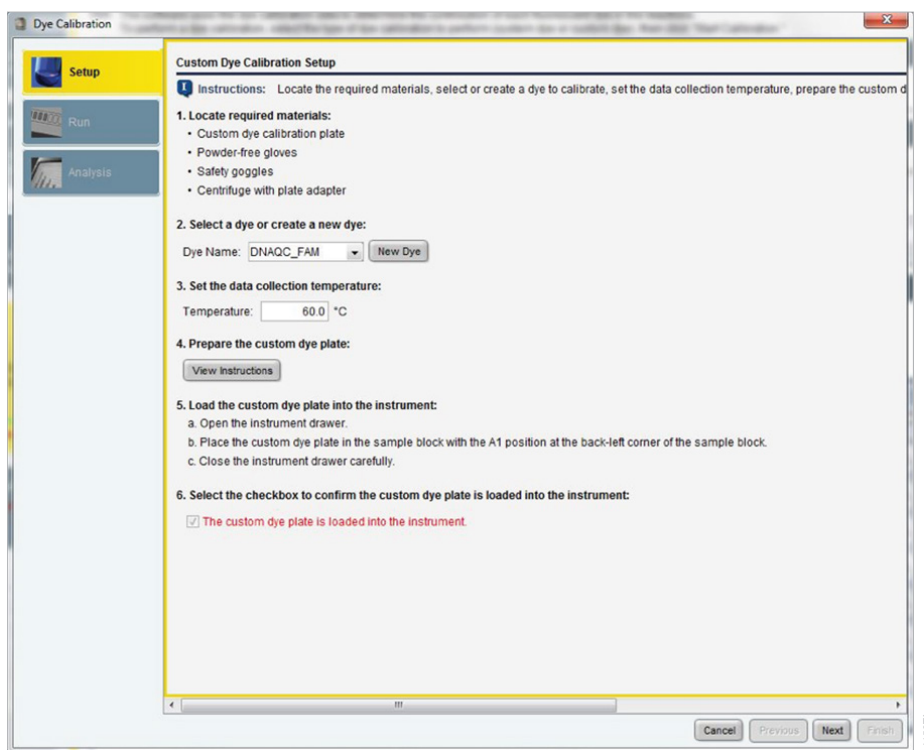

Figure 5. Selecting the dye name from the drop-down list.
- In the Custom Dye Calibration Setup window, select “DNAQC_FAM” from the Dye Name drop-down list (Figure 5).
- Check the box for “The custom dye plate is loaded into the instrument” (Figure 5).